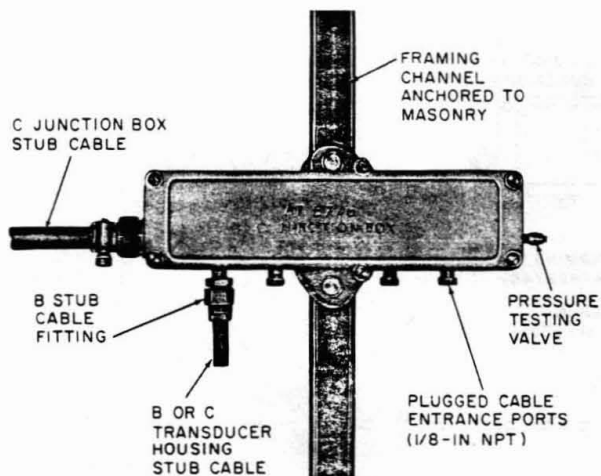

Fig. 5—C Junction Box Mounted on Framing Channels
5.15 Two (2) mounting bolts and nuts are furnished with the junction box for mounting on framing channels (Fig. 5).